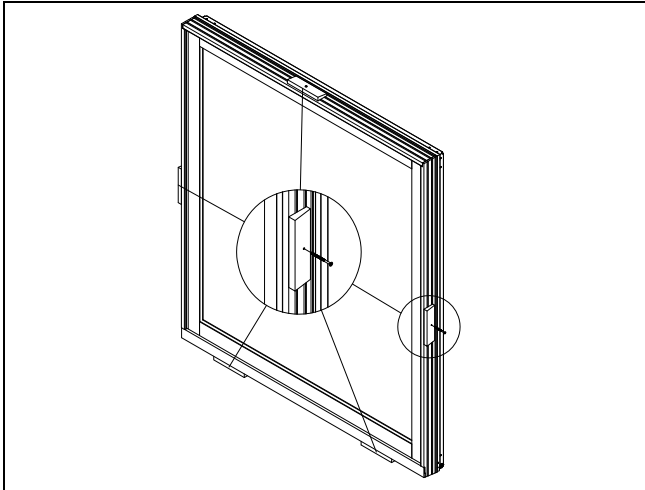

Figure 8
2. Remove shipping blocks from sill. Remove screws and shipping blocks from side jambs and head jamb (picture units). See figure 8.
6. Square frame by taking diagonal measurements. Measurements should be equal. Adjust frame by applying shims to the top above pre-drilled screw holes in jamb liners as shown in figure 8. Adjust lower shims as necessary to obtain frame squareness.
7. Raise bottom sash 3-4" and lower the top sash slightly to access pre-drilled screw holes. When insert is square and plumb, hold unit firmly against blind stop or interior stop (depending on installation method), drive the four #7x2" screws provided through pre-drilled holes in jamb liner at top and bottom corners. Do not over-tighten screws, some adjustment may be necessary later. See figure 8.